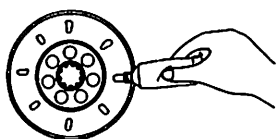

fig. 15
- a) Squeeze an amount equal to about 2 match heads from the tube and apply to the lining surfaces of either the clutch or brake in 8 places. (fig. 15)